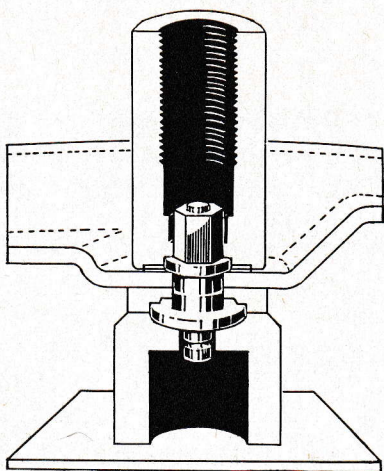

Fig. 27. Pressing together.
3. Turn the tool round and centre it on the stud. Ensure that it is aligned with the stud. Press down the tool, see Fig. 27. Discontinue pressing at a maximum of 8 tons pressure. Turn the tool and check that the stud does not move too easily. If so, further pressure should be applied.